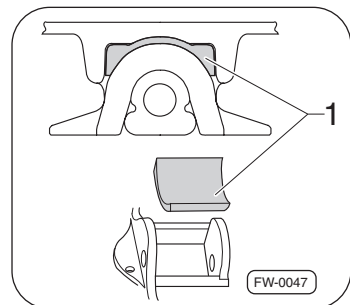

Fig. 23 · Check the bearing inserts
5. Visually inspect both bearing inserts ⇒ Fig. 23, –item 1– for excessive wear, chips, cracks and grooves. If the bearing inserts display any defects they must be replaced ⇒ Page 38.